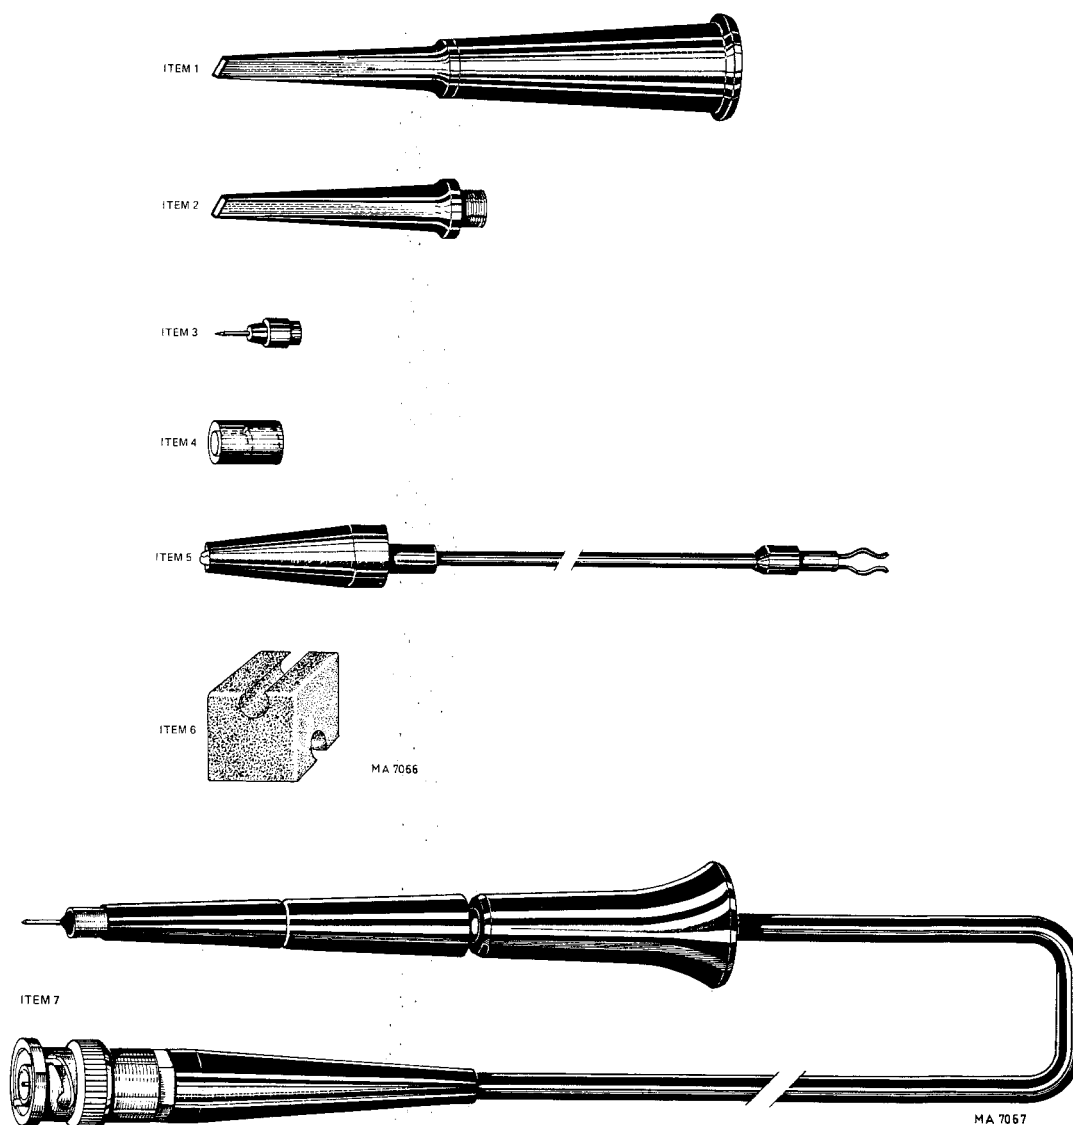

Fig. 22. Probe set PM 9335
3.7.7. 1:1 Probe set PM 9335 (Fig. 22)
1 test hook	Fig. 22, item 1
2 spare test hook sleeves	Fig. 22, item 2
2 spare probe tips	Fig. 22, item 3
1 protective cap	Fig. 22, item 4
1 earthing lead	Fig. 22, item 5
1 probe holder	Fig. 22, item 6
1 probe assembly	Fig. 22, item 7